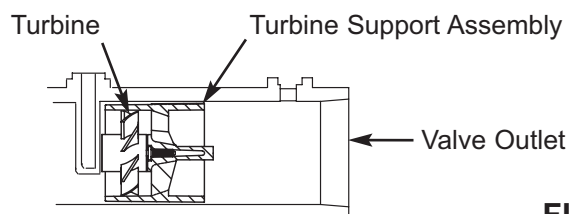

FIG. 7
- Make sure the turbine and support are firmly in place in the valve outlet, as shown in Figure 7. Blow into the valve port and observe the turbine for free rotation.